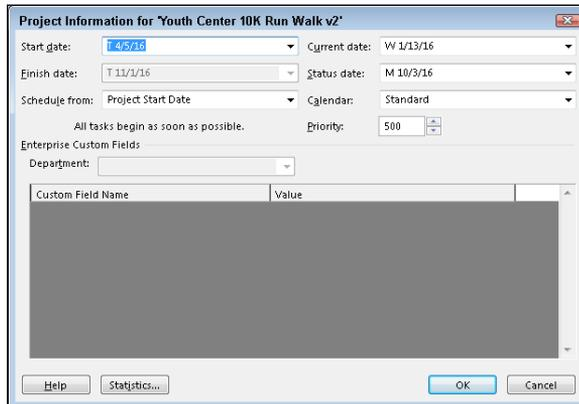

Figure 2-4:
- ✓ **On the Ribbon, go to the Project tab and click the Project Information icon.** You see the Project Information dialog box, shown in Figure 2-4. It holds the same information as the Project Information section on the File menu.